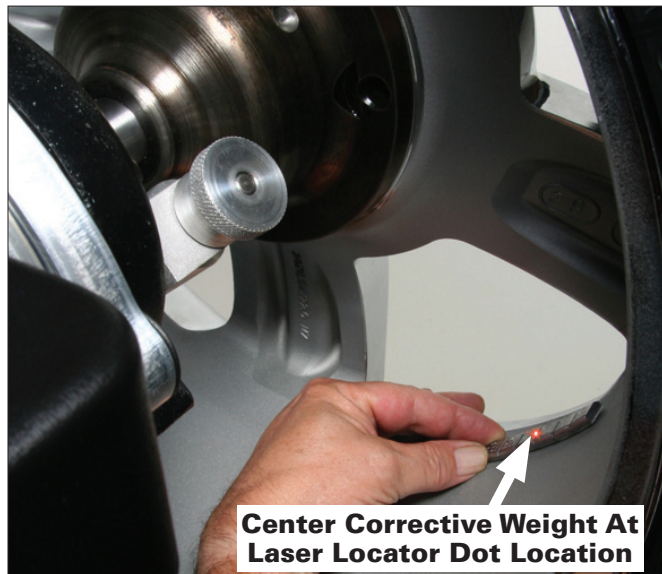

Figure 11 - Centering Corrective Hidden Weight At Laser Locator Dot Location
8. Center and attach the outboard corrective weight at laser locator dot location as shown in figure 11.